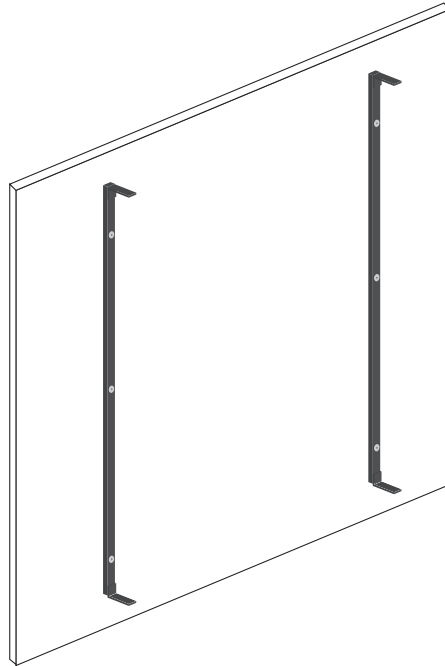

Figure 7: Attaching the Wall Boards to the Wall
9. Remove the boards from the frame and attach them to the wall using the provided hardware where applicable or other such appropriate fasteners (lag bolts, wall anchors, molly bolts, wood carriage screws, etc.). Refer to Figure 7.